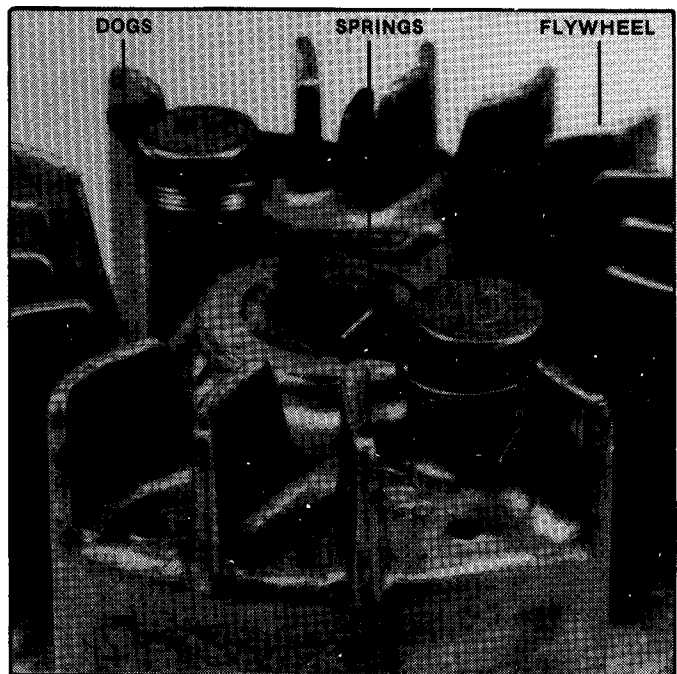

FIGURE 9.3
9.3 On top of the flywheel are two starter dog assemblies. These are permanently assembled onto the flywheel and should never be removed. However the dog springs can be replaced if necessary. With the hooked end facing up place the spring over the pin and on top of the dog. Pass the lower end of the spring under the dog and lift the spring end over and past the flywheel fins in a clockwise rotation. Continue this procedure until the whole spring is under the dog. From the under side of the dog hook the hooked end of the spring around the dog. Place the lower end of the spring in front of the flywheel fin adjacent to the dog. See Figure 9.3.